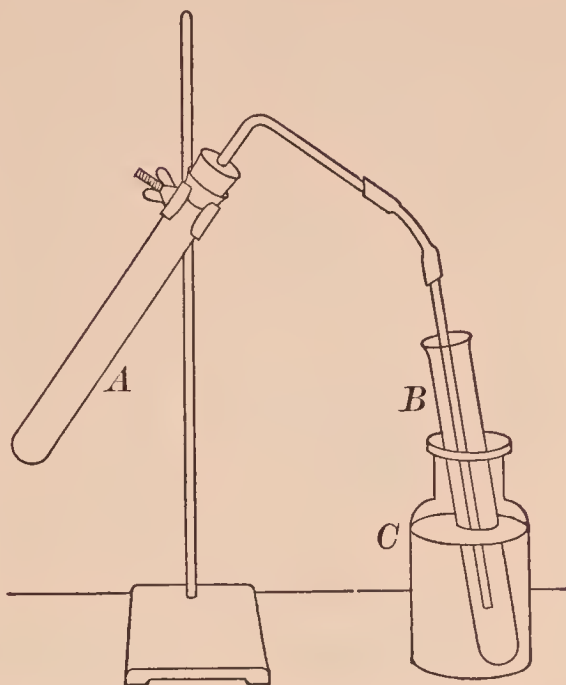

FIG. 26. — Apparatus for distilling water
**APPARATUS.** — As in Fig. 26. *A* and *B* are large test tubes, and *C* is a 250 cc. bottle.
two short pieces of glass tubing (to prevent "bumping"). Arrange the apparatus as in Fig. 26; *B* is empty and *C* should be about three-fourths full of cold water.